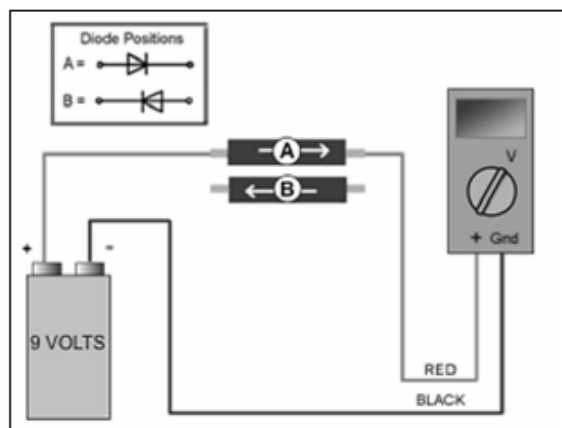

Figure 012-12: Diode V1 Test Circuit
4. Connect the V1 diode in series on the positive lead between a 9-volt battery and a voltmeter, as shown in Figure 012-12, Item A. A properly functioning diode should provide a voltage of about 4.5 to 6.5 volts DC (depending on the condition of the battery).
5. Reverse the position of the diode. Connect the V1 diode in series on the positive lead between a 9-volt battery and a voltmeter, as shown in Figure 012-12, Item B. A properly functioning diode should not allow voltage to pass through the circuit when placed in this position. The voltmeter should display 0.